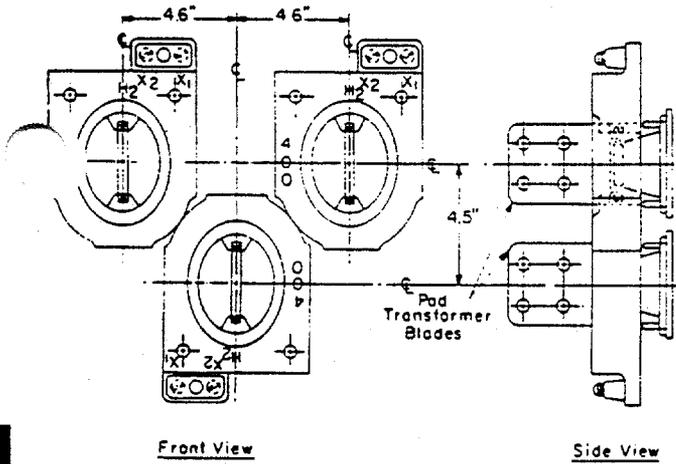

Fig. 7. Three Grecian Urn models (one inverted) mounted on pad transformers having confined spacing
Figure 7 shows three of the "Grecian Urn" models flush-mounted on pad transformers with less bushing spacing. The closer bushing spacing requires the use of the "Grecian Urn" Type JAB-0. The JAB-0 CT's are mounted on the blades using the slotted butyl sections on the inside of the window to secure it into position and to provide adequate clearances from the blade.
5.75	Flush Mounting With X ₂ Inverted (See Fig. 7)